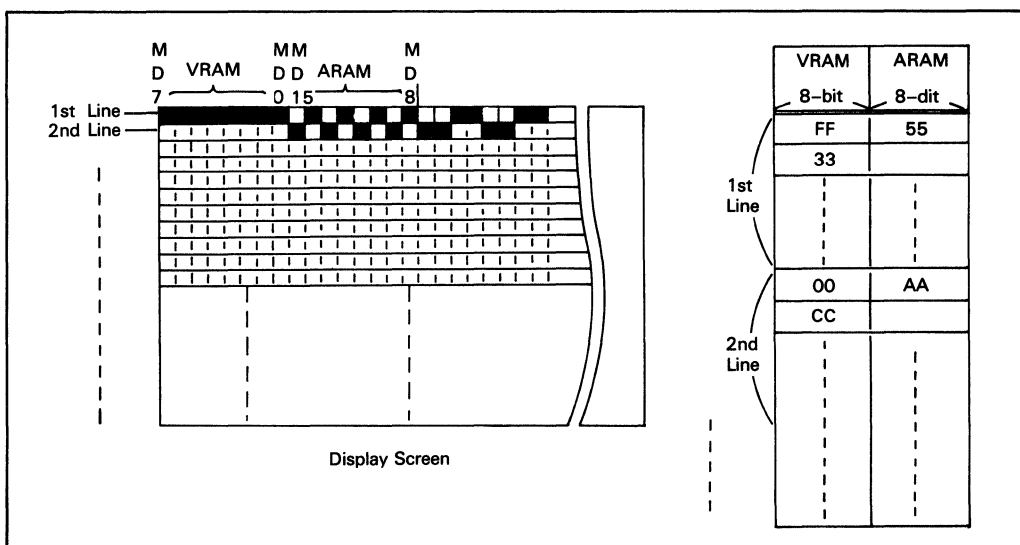

Figure 9. Relation between Graphic Screen and Memory Contents
**Graphic Mode 1 :** Graphic Mode 1 directly displays data stored in a graphic memory buffer. The display data supplied from memory is accessed in 16-bit units. Character attribute functions or wide mode are not provided. Figure 9 illustrates the relation between graphic display screen and memory contents.